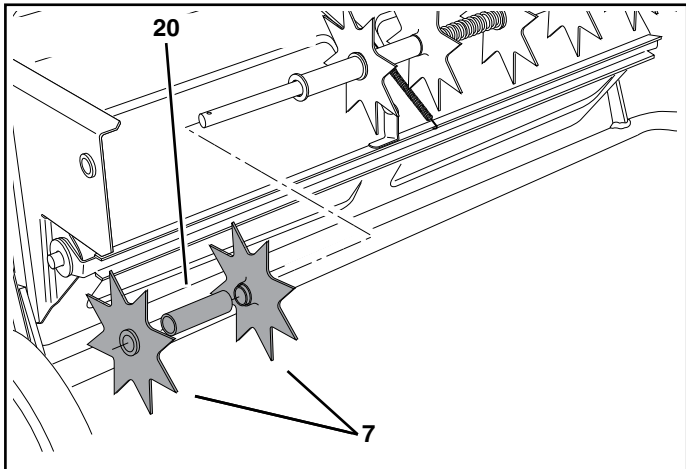

FIGURE 19
- Place two spike disks (7), separated by a long spacer tube (20), onto the shaft. Fit the long spacer tube onto the ends of the flanged bearings in the disks. See figure 19.